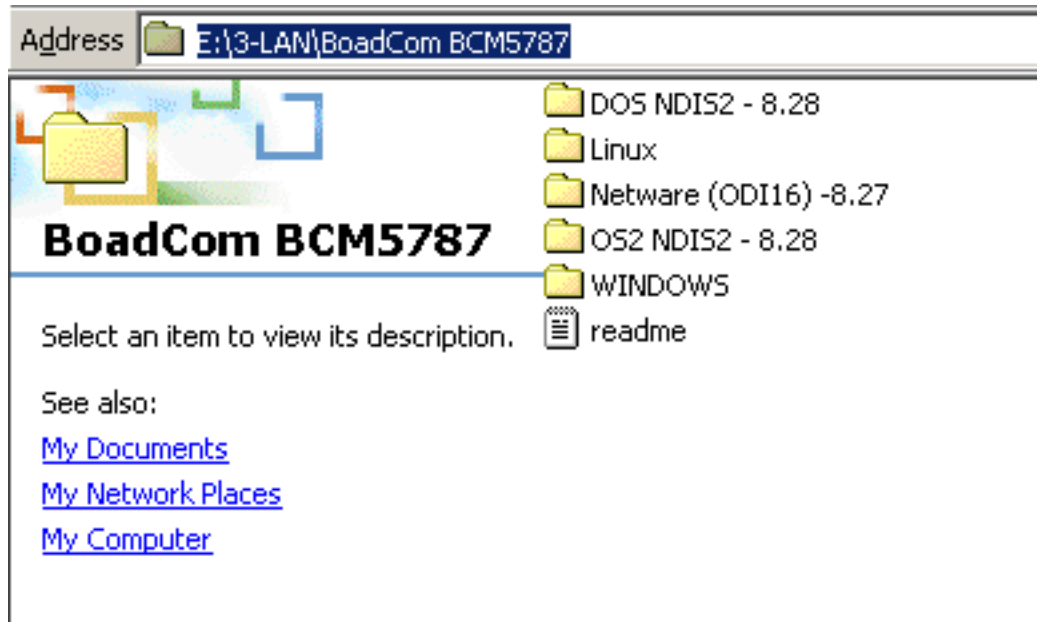

Figure 7-18: Location Browsing Window
Step 8: Select the proper OS folder under the “X:\3-LAN\E:\3-LAN\BoadCom BCM5787” directory (**Figure 7-18**) in the location browsing window, where “X:\” is the system CD drive.